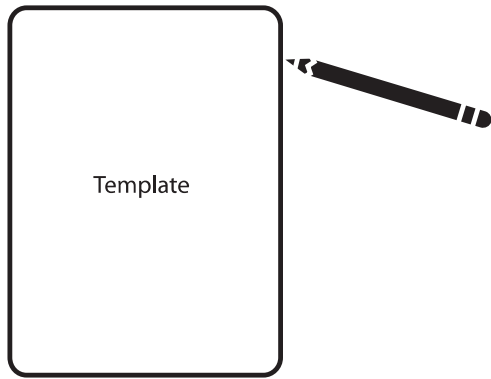

Figure 1
3. With these measurement requirements in mind, place the template against the inside edge of one of the studs. (Do not "center" the template if your studs are wider than 14 1/2"–15 1/2".) Use a level to make certain the template is straight and plumb. The outside edge of the template will be your exact cutout size. [*Figure 1*]